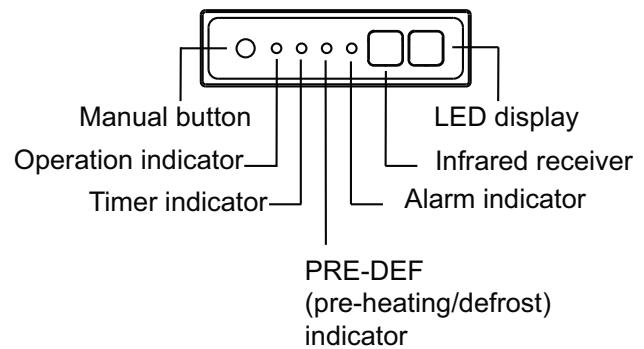

Fig. 19 — IR (Infrared) Receiver Display Panel
- This display panel on the indoor unit can be used to operate the unit in case the remote control has been misplaced or is out of batteries. See Fig. 19.